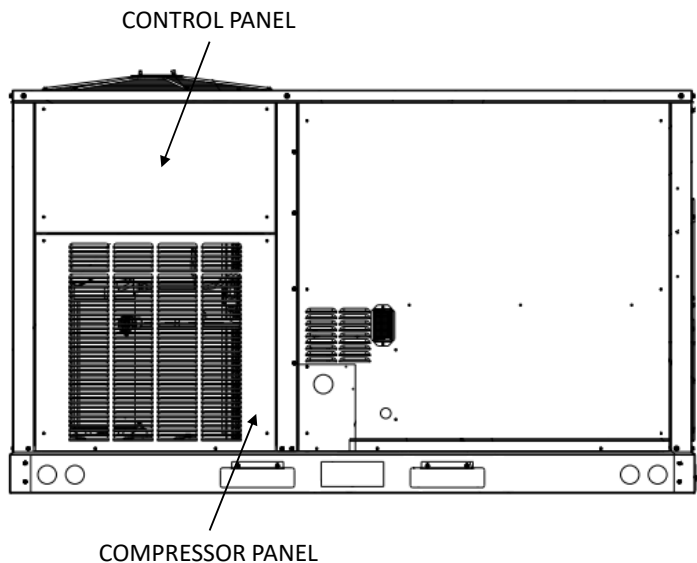

FIGURE 1
2. Remove the Control and Compressor panels. See Figure 1.